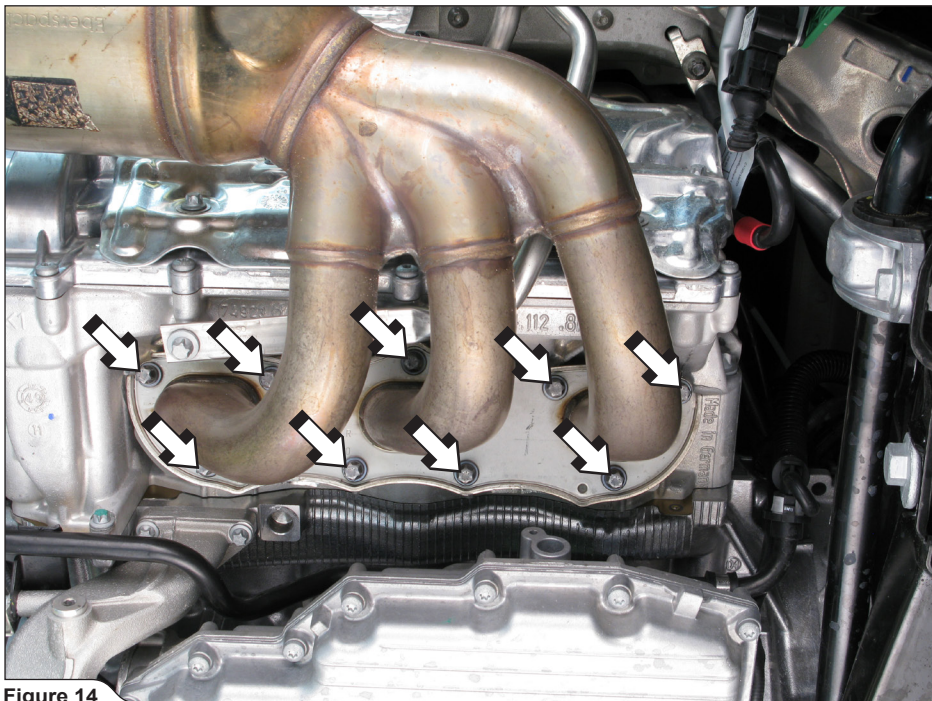

Figure 14
10. Loosen the header tubes' flange bolts on both sides of the engine (**Figure 14**).